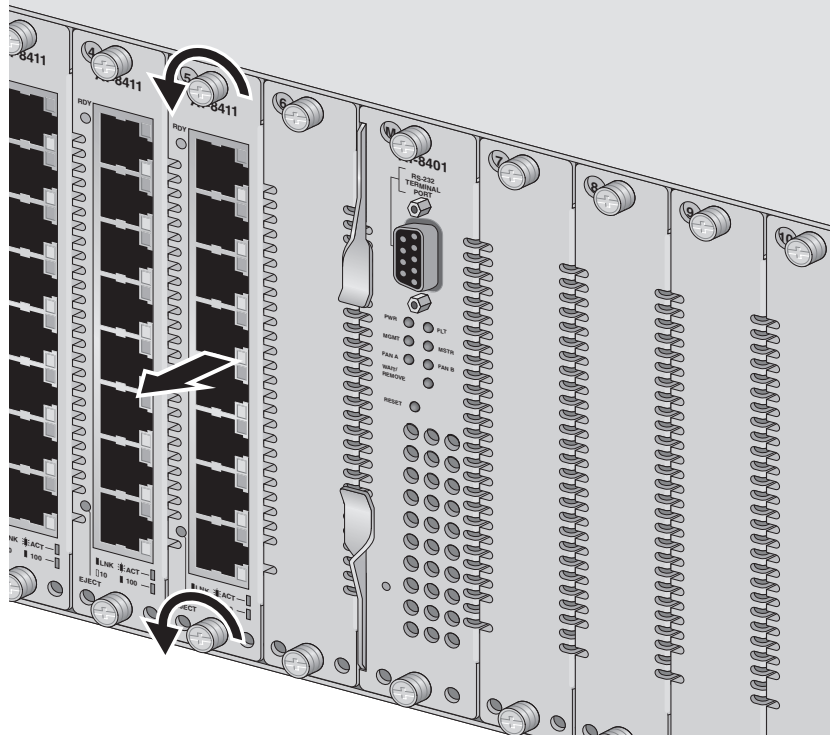

Figure 36 Removing an AT-8411 Line Card
5. Using a Phillips screwdriver, loosen the two installation screws on the faceplate of the line card. See Figure 36.